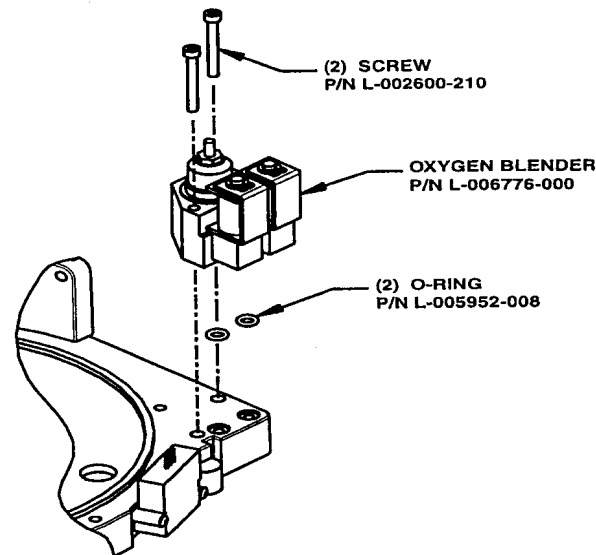

FIGURE 4-22.
1. Install and seat each of 2 O-rings (P/N L-005952-008) into the 2 manifold blender ports. See Figure 4-22.
2. Orient and install the oxygen blender (P/N L-006776-000) onto the manifold. See Figure 4-22.